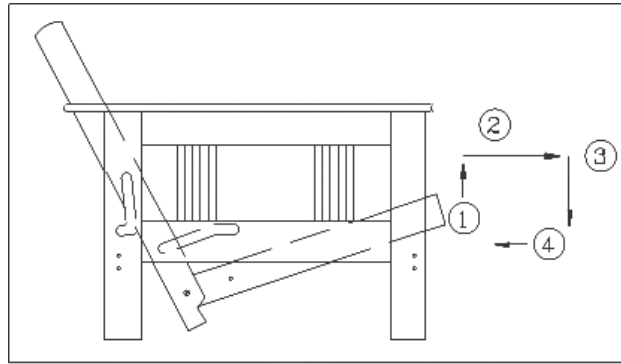

Figure 1
- 3) Set the seat section down (Figure 1).
- 4) Push the seat section backwards about an inch so that it locks into bed position (Figure 1).
- 2) Lift the backrest upward until the plastic stops on the bottom of the seat are pulled within the framework to the inside of the front cross rail (Figure 1).